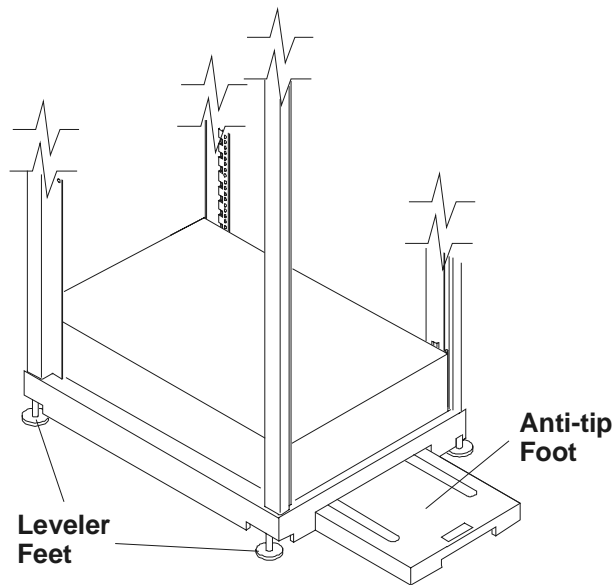

Figure 8-2. Anti-tip Foot and Leveler Feet
- Extend the rack's anti-tip foot (see Figure 8-2) prior to any work on the rack to prevent rack tip-over, equipment damage, and injury.